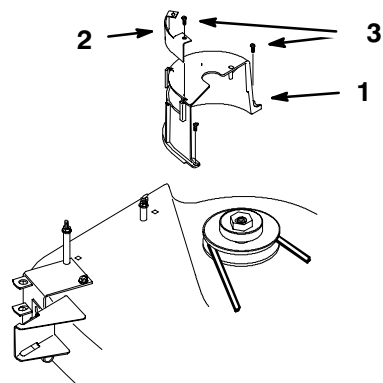

Figure 10
1. Remove the metal plate from the previously removed belt cover (Fig. 10). Save mounting hardware.